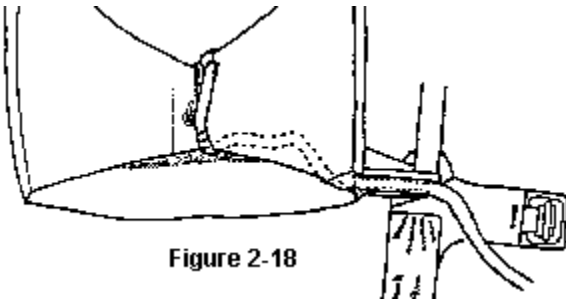

Figure 2-18
**Step 23** Mate the Velcro along the lumbar strap and container side, tucking the excess bridle under the side flap as shown in *Figure 2-18*.